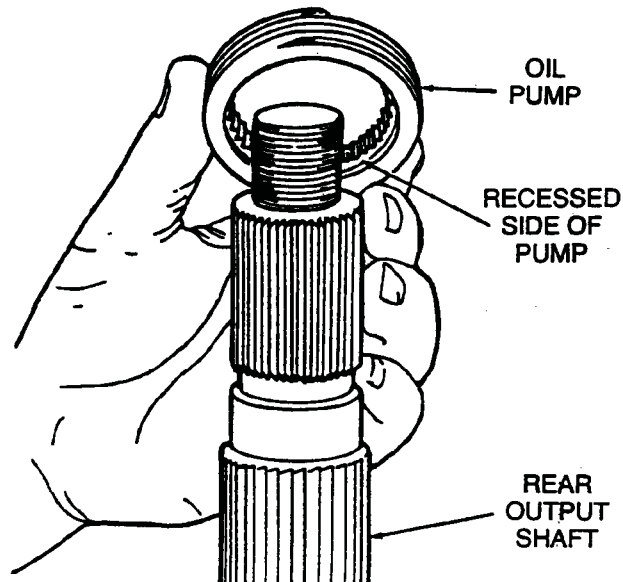

Fig. 4-9 Remove Oil Pump
10. Remove the oil pump from the rear output shaft (Fig. 4-9). Note position of pump. Recessed side faces case interior.